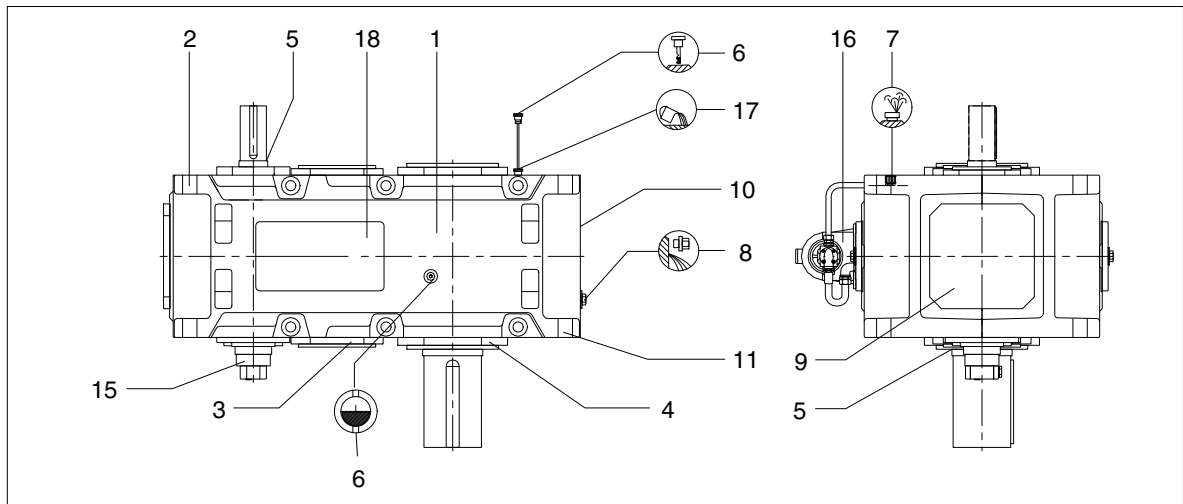
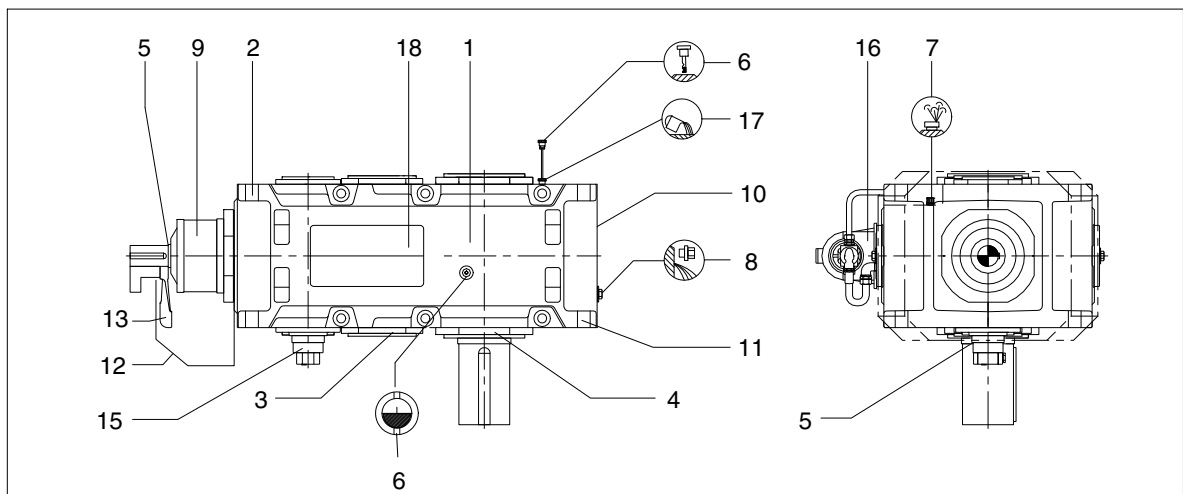

Fig. 11: Gear-unit features on gear units type H..V with add-on oil-supply system
Fig. 13: Gear-unit features on gear units type B..V with add-on oil-supply system
- Version with add-on oil-supply system (see figure 11 and figure 13)